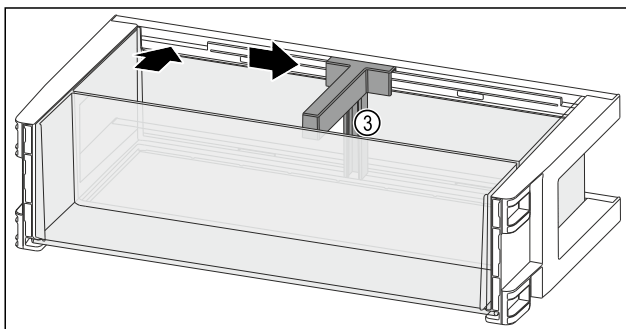

Fig. 145
- ▶ Insert the bottle holder Fig. 145 (3) in the recess.
- ▶ Push the bottle holder Fig. 145 (3) to the desired position to the side.